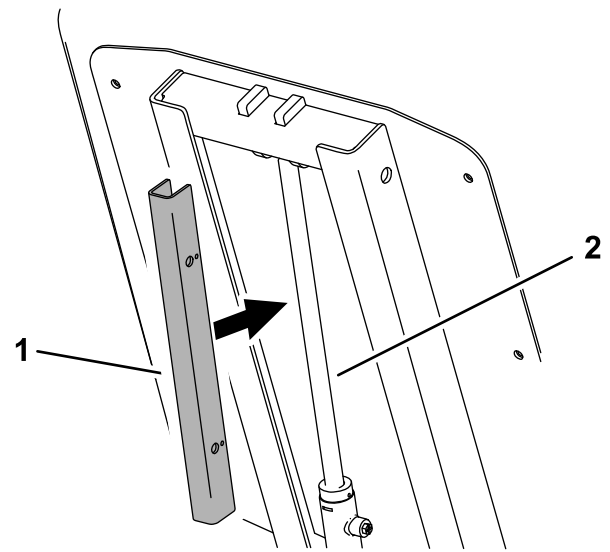

Figure 16
3. Slide the cylinder lock over the lift-cylinder rod and secure with the cotterless pins (Figure 16).